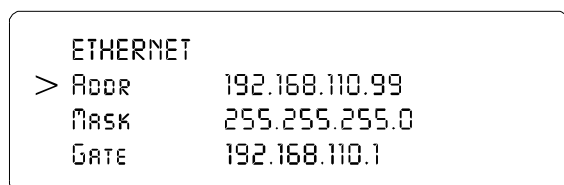

FIG. 30: ETHERNET MENU/DEFAULT IP ADDRESS
- Step 6. Press the Enter button. The Ethernet sub-menu appears. (See Fig. 30)